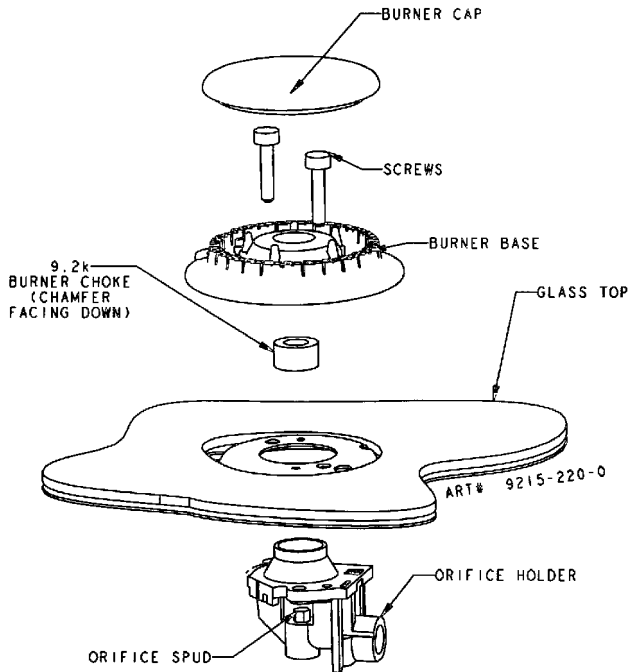

FIGURE 10
Step 6: Place 9.2k burner choke(s) into right rear and left front orifice holder with chamfer facing down. (See figure 10).
2. Remove chokes from the left front, center and right rear orifice holder (see figures 10 and 11). As required a simple paper clip can be used to remove the left front and right rear choke.